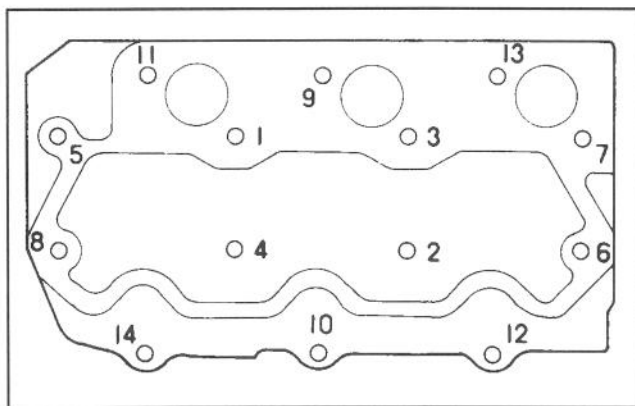

Figure 41
2. Using sequence in figure 41, torque head bolts to 36 to 38 ft/lb.